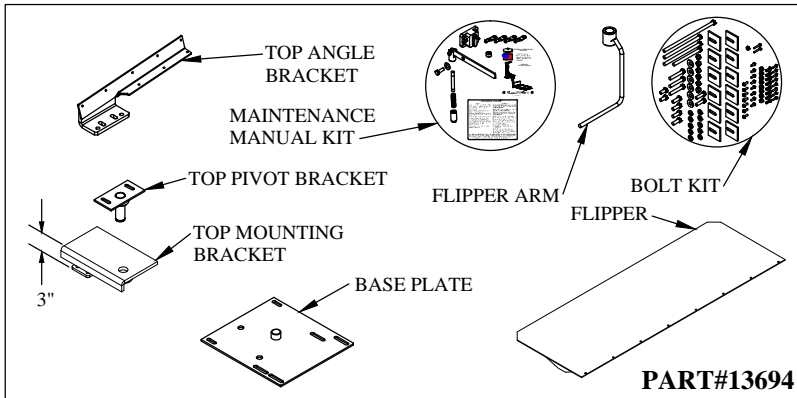

Figure 1: Part Identification.
- 4. Verify** that mounting bracket kit matches (Figure 1 and Table 1) and that this kit is for your van.